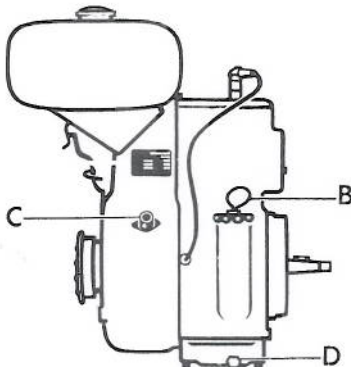

Fig. 1
Fill the fuel tank with ordinary petrol by means of a sieve funnel. Check the engine oil level with the dip stick (B, fig. 1). The oil quantity should be maintained at a level between the max. and min. marks shown on the dip stick. Check the air filter; if necessary, clean. If a oil bath air filter is fitted top up oil to correct mark indicated on filter bowl.
- a) **When running with petrol:** Put the engine into idling position and press the stop button (C, fig. 1). Close the fuel cock.
- b) **When running with paraffin:** Switch the fuel cock over to "petrol" position and let the engine run for 2-3 minutes. Then put the engine into idling position and press the stop button (C, fig. 1). Close the fuel cock.